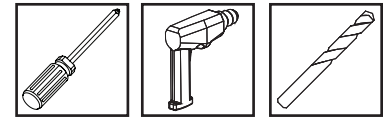

Fig. 23
3. Insert and tighten six #10 x 3/4" Phillips pan head screws (Figure 23).